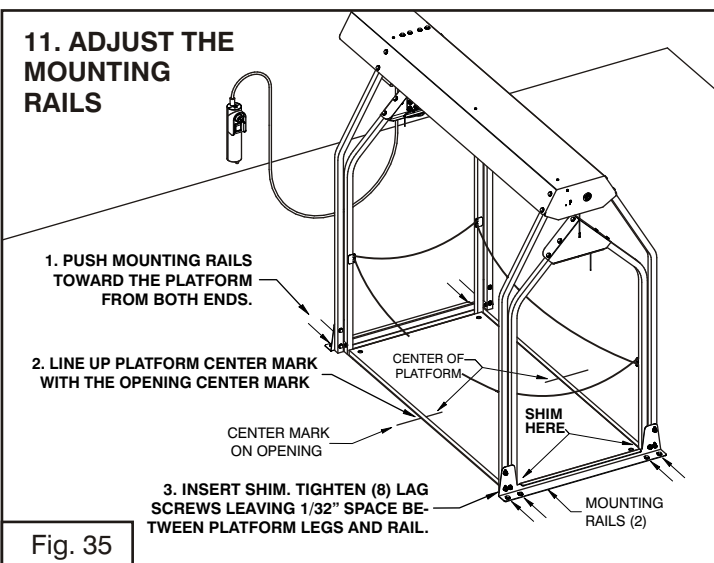

Fig. 35
The mounting rails must be adjusted to center the lifting platform in the opening. Mark the platform center by measuring 22" inward from either end and making a small mark (see Fig. 35).
11.3 Tighten the (4) lag screws on the **first** mounting rail, but don't strip the threads in the floor. Then, place a 1/32" shim spacer between the **second** mounting rail and the platform legs and tighten the (4) lag screws (see Fig. 35).